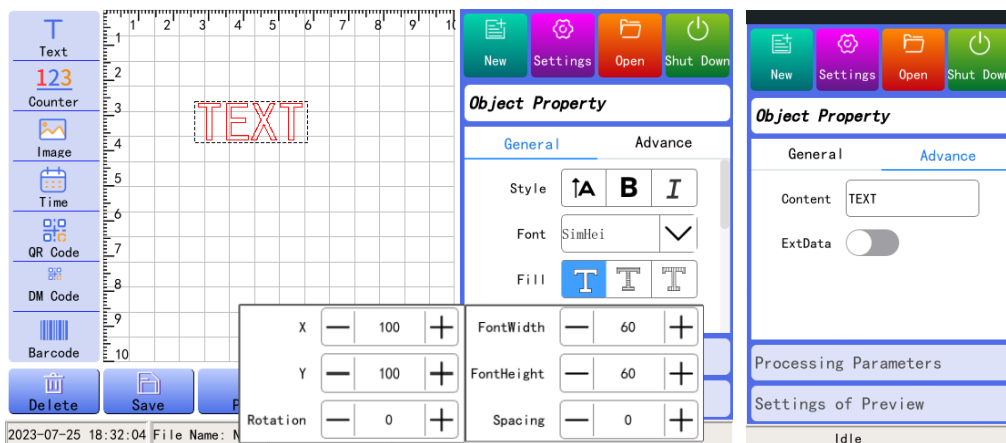

Figure 3.2.2.1 Text Editing
① If you need to print Chinese characters (CN), English (EN), numbers, symbols, etc., please click the "Text" button in the "Information Button Area", and a default text entry will appear in the "Information Editing Area", as shown in Figure 3.2.2.1.